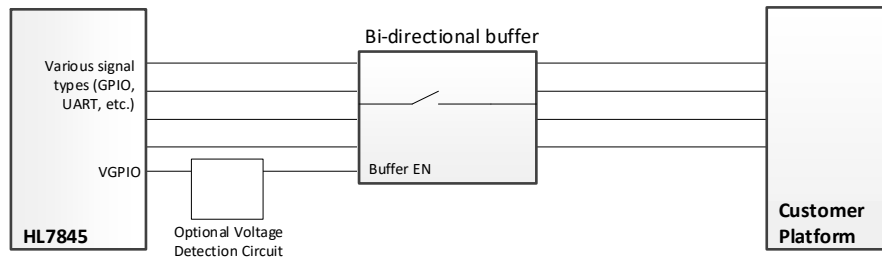
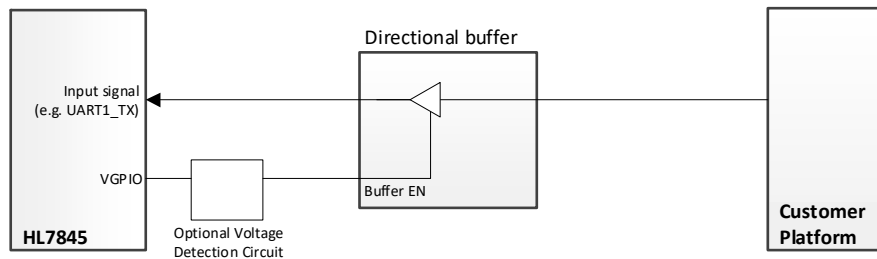

Figure 6-3: Example—Buffer – Bidirectional Signal
Figure 6-4: Example—Buffer – Directional Signal
- Bidirectional (Input/Output) signals— For module I/O signals (e.g. GPIOs), an analog switch that can tri-state both the output and the input can be used (e.g. Texas Instruments TMUX1511). As shown in Figure 6-3, I/O signals connected to the buffer will be tri-stated.
- Directional (Input) signals— For module inputs (e.g. UART1_TX), a logic buffer with output tri-state mode can be used (e.g. Texas Instruments SN74LVC1G126). As shown in Figure 6-4, the signal is controlled and, when disabled, the output signal is tri-stated.
To ensure faster detection of VGPIO transitions, Semtech recommends adding an optional voltage detection circuit (as shown in Figure 6-3 and Figure 6-4) to monitor and detect the transition low, and then control (enable/disable) the associated buffer circuit.